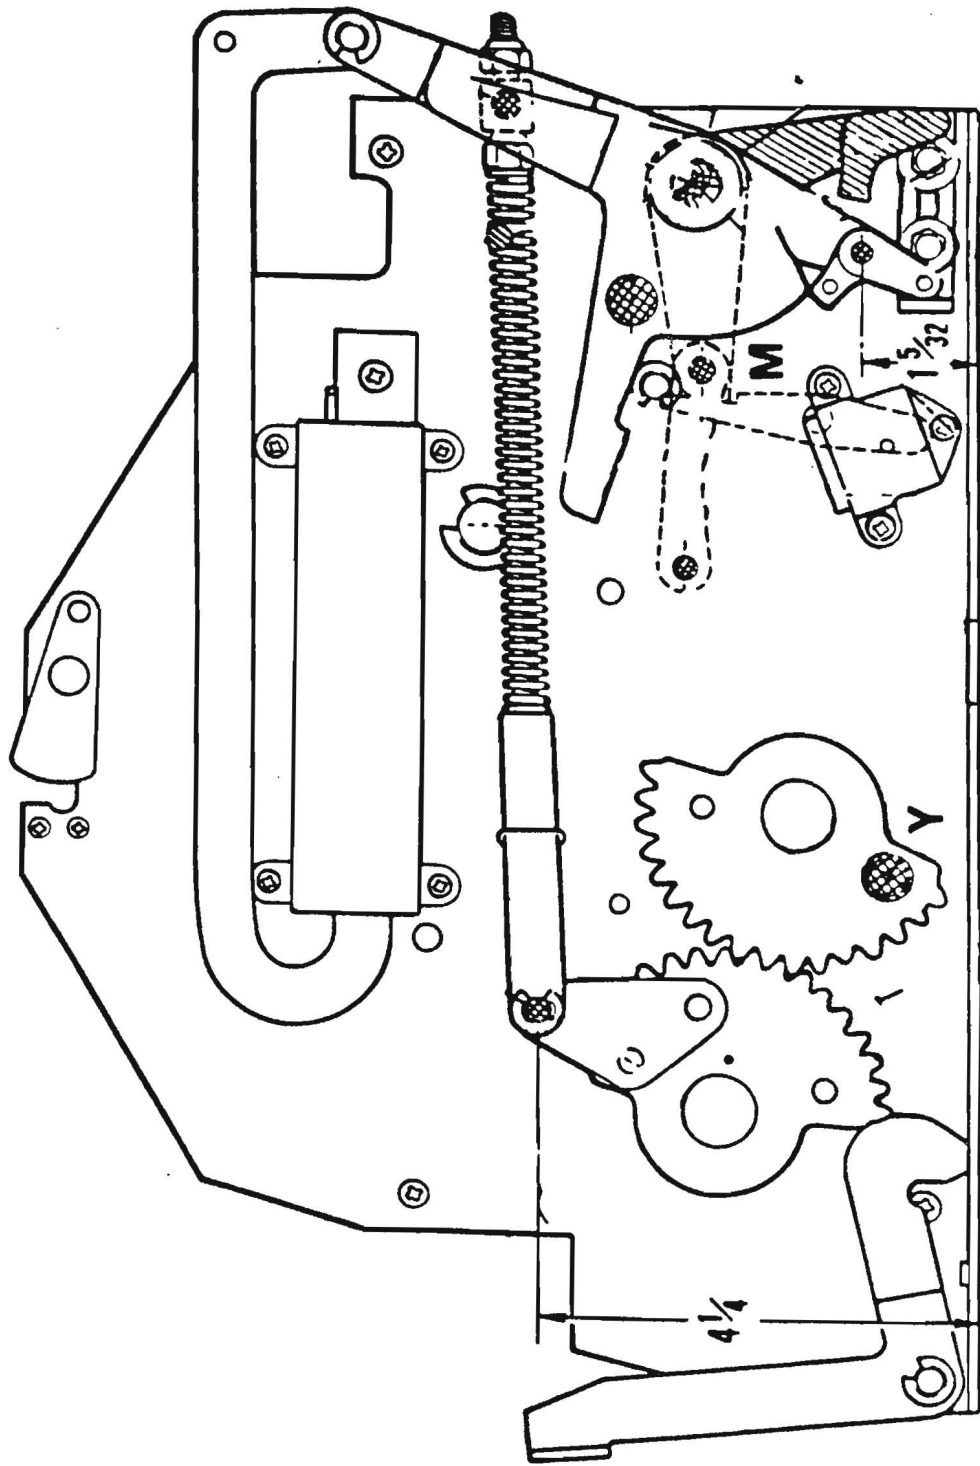

Figure 3.
The tripping of the Trip Operating Lever pawl from the Stop Bracket is observed on Figure 3.
Half Gear - Figure 3
Stop Bracket (J) is adjusted so that back edge is flush with back of side plate after Reel Mechanism is placed in cabinet. It is then adjusted to trip as full stroke pawl drops off last tooth of Rack Lever in Handle Mechanism or just before, but assure that all latch pawls engage prior to kick without raising Toggle Stop Shaft (M). Shown in Figure 3.
Trip Position Adjustment - Figure 3